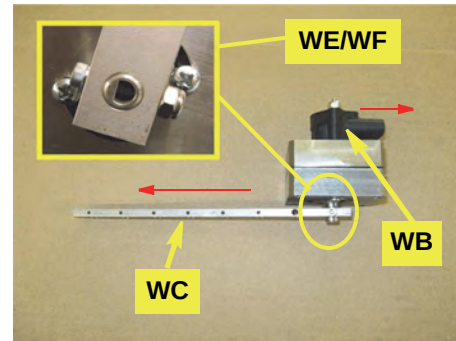

Figure 1c (with inset): Attached WAS arm
- c. Install WAS phantom plug/cable **EW** (Figure 1c - STS model and prototype **EW** shown). **Note:** You will connect WAS cable **EE** to **EW**'s 6-pin branch connector (circled) later.
Figure 1c with inset: WAS (prototype) phantom plug/cable installed (STS shown)
- Using hardware **WE** (nut) and **WF** (screw), attach the cut WAS arm **WC** to the WAS assembly. The arm should be mounted in the opposite direction to the WAS wire connector **WB** (Figure 1c with inset).